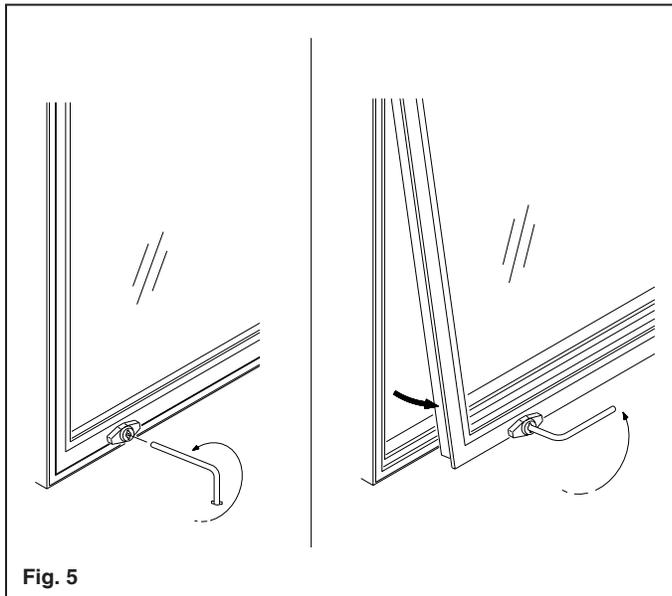

Fig. 5
B. This picture window comes with an interior sash that allows access for internal cleaning. The sash must be in the open position in order to install the window. An L shape janitor's key should have come with the window for operating the locks on the interior sash. With the long end of the key, turn one lock counter-clock wise to unlock it. See **Fig. 5**. The lock is spring loaded, so a little pressure while turning is needed. Now, take the short end, the end with the two tabs, and unlock the second one. The key will remain in the lock and can be used as a handle for pulling the sash away.